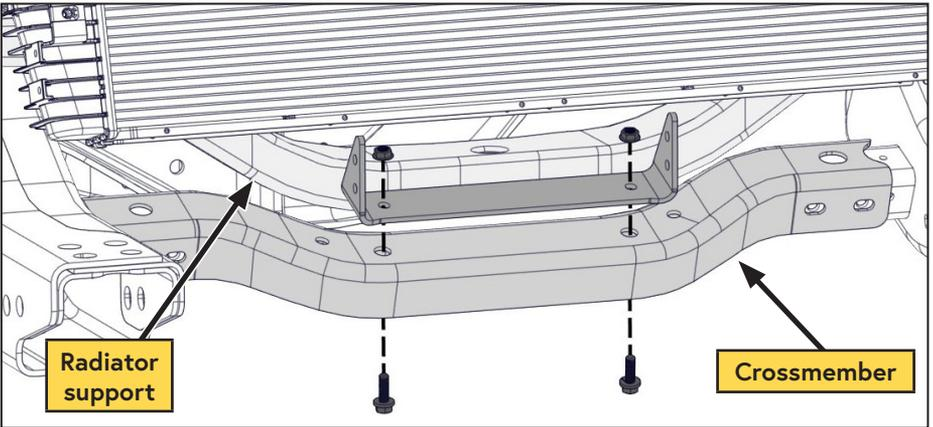

Figure 31 — Install cooler
- Install the cooler bracket onto the black front crossmember, below the body coloured radiator support (Figure 31).